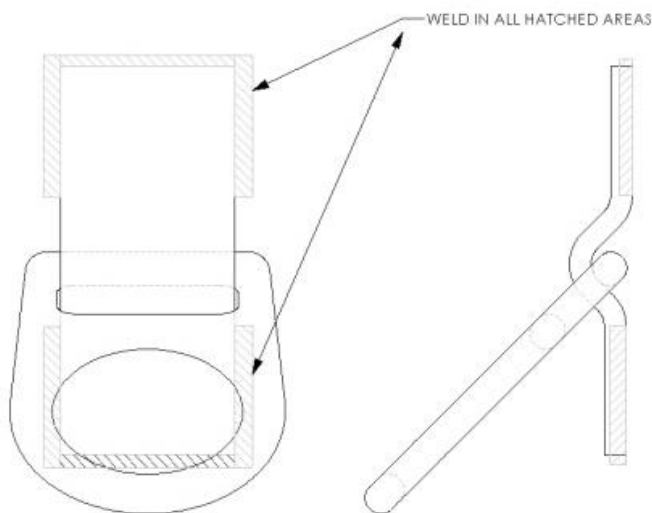

Figure 5
3. Install D-ring onto formed bracket prior to welding. Weld with a 5/16-in. minimum fillet weld using 70,000-PSI minimum strength MIG wire or electrode in the indicated areas shown in Figure 5. Take care not to weld d-ring; d-ring must freely swivel after welding.